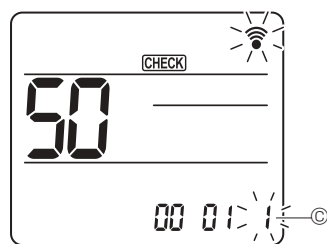

Fig. 7-20
④ Selecting the setting number
Use the [DOWN] button to change the Setting number ⑥. (Fig. 7-20)